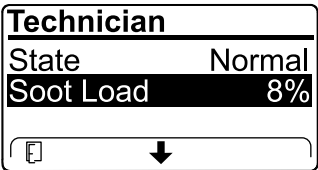

Figure 32
- View the soot load which is measured as the percentage of soot in the DPF(Figure 32); refer to the soot-load table.